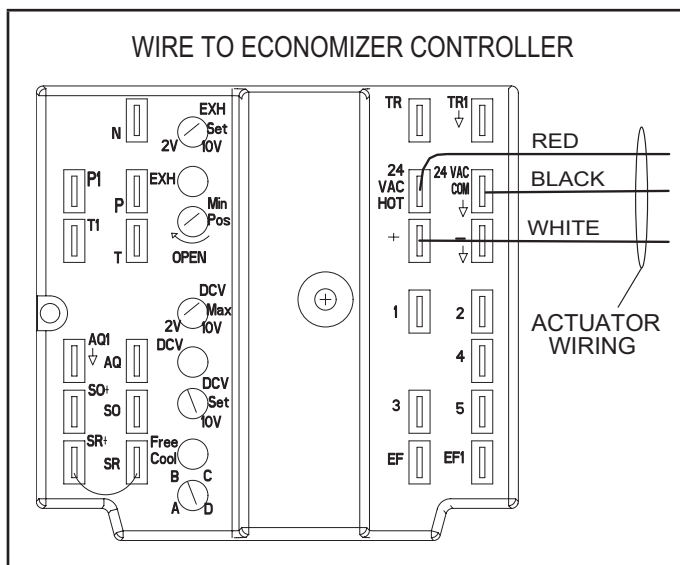

FIGURE 3
- 6 - Install quick connects onto actuator wires. Route wires to the outside of the economizer and connect to economizer controller (A6) as shown in figure 3. See table 1.